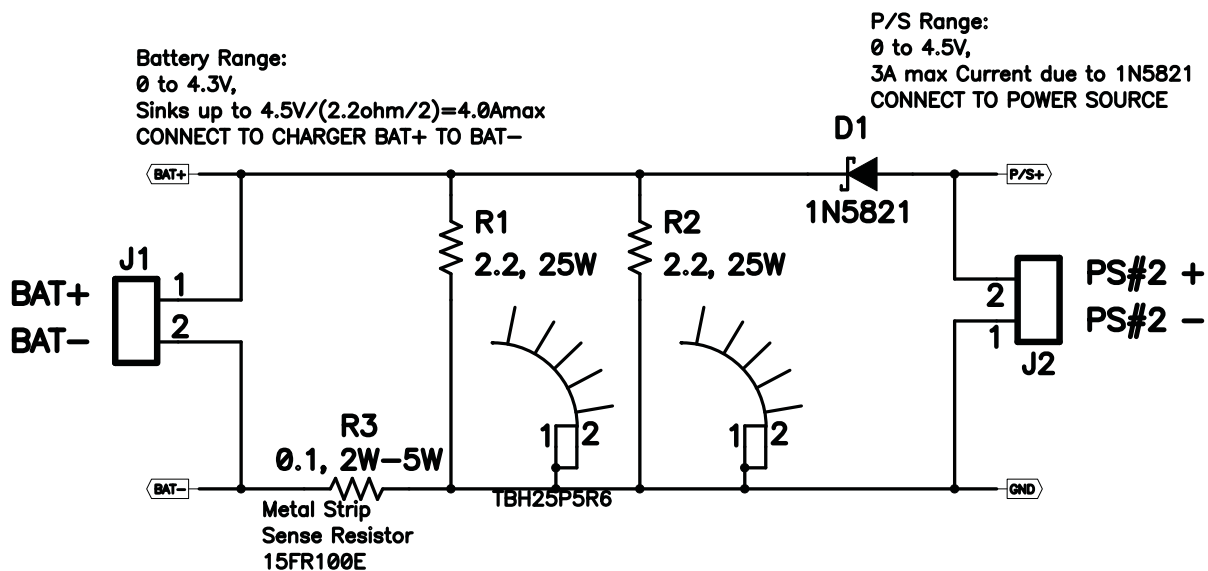

Figure 7. BAT\_Load (PR1010) Schematic
2. If not using a battery as the load, then power supply #2 (PS #2) capable of supplying up to 5 V at 5 A is required to power the circuit shown in Figure 7.
Testing with an actual battery is the best way to verify operation in the system. If a battery is not available, then a circuit similar to the one shown in Figure 7 can simulate a battery when connected to a power supply.